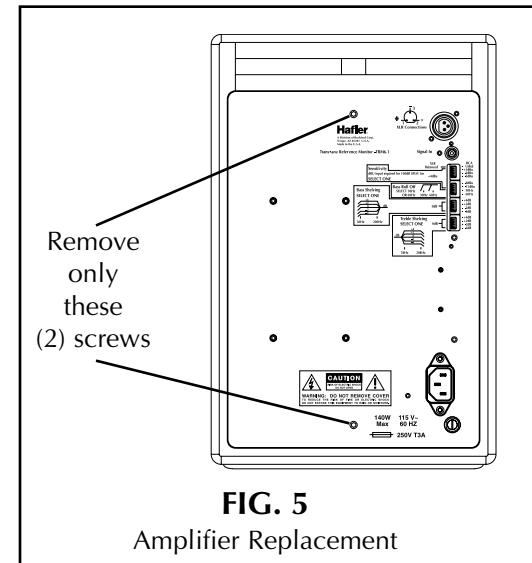

FIG. 5
1. Remove (2) screws from back using a 3/32" Allen Wrench (**FIG. 5**)